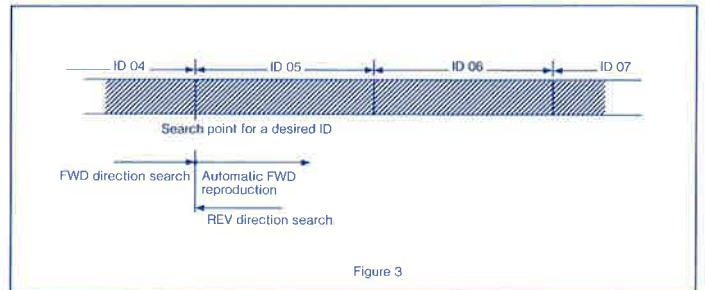

Figure 3
- Repeatedly press [F•FWD] or [REW] during FWD mode until the desired ID number is displayed. Operation will automatically return to FWD mode. (See Figure 3.)